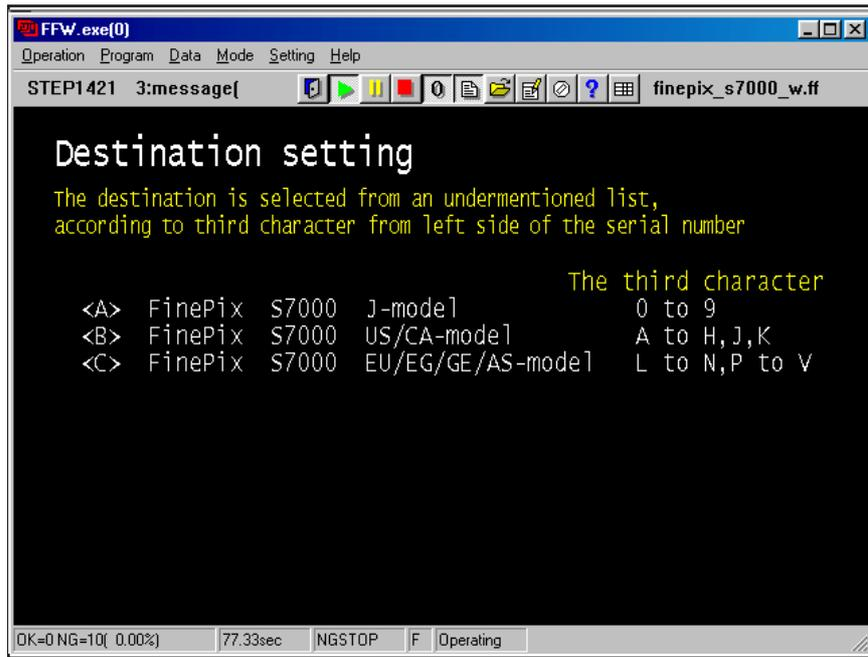

Fig.42
---> The [Destination Select Screen (Fig.42)] is appears.